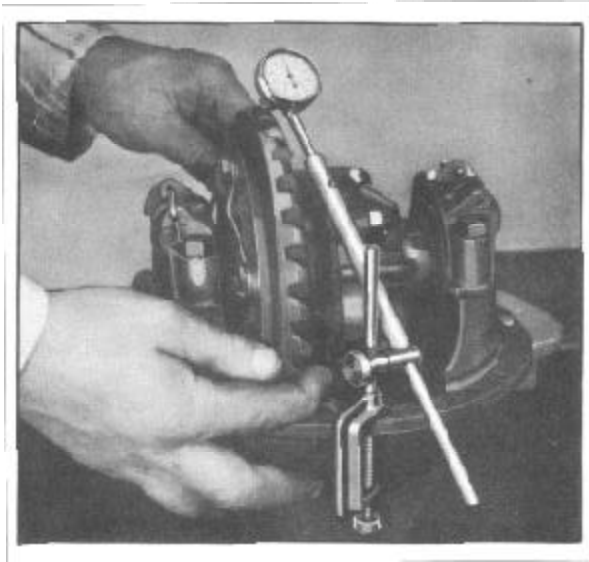

Figure 17--Checking Drive Gear and Pinion Backlash
20. Mount Dial Indicator J 390-X, Figure 17, on the differential carrier flange and turn left hand adjusting nut to the left (counter clockwise) one half